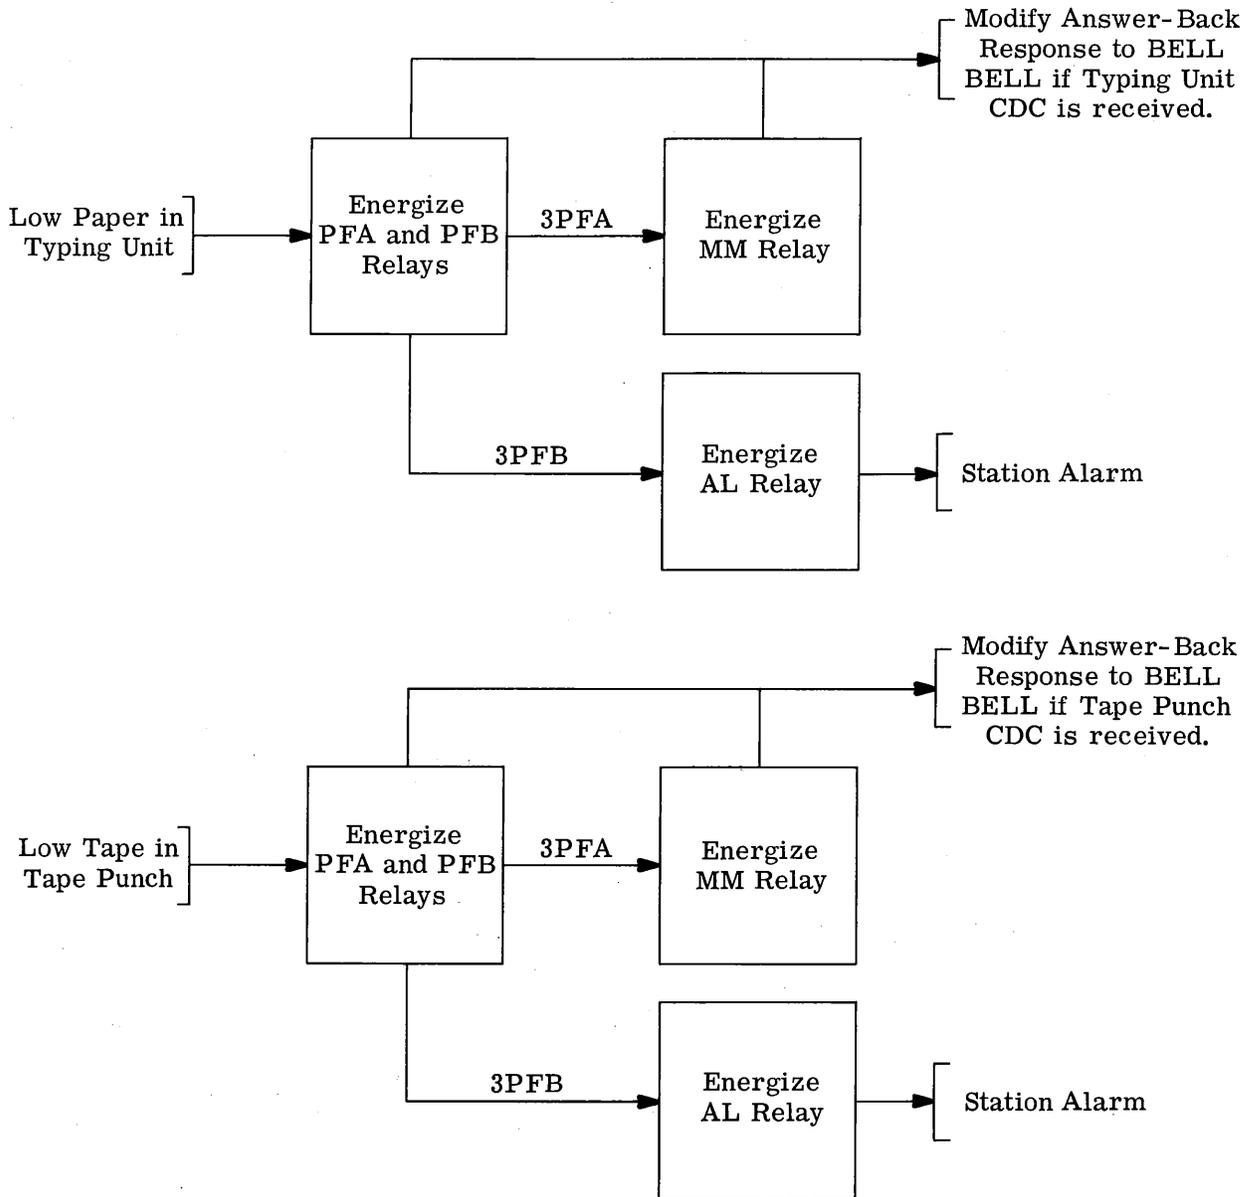

Figure 11 - Maintenance Response
3.44 If a receiving unit is low on paper or low on tape, its respective low paper or low tape contact will close to energize the PFA and PFB relays (Figure 11). Relays MM and AL are energized through contacts 3PFA and 3PFB, respectively. The station alarm is tripped to notify the attendant that a maintenance condition exists. Contacts 1MM, 1PFB, 2PFB, 9MM, 7MM, 5MM, 3MM, and 2MM will alter the answer-back code sequence